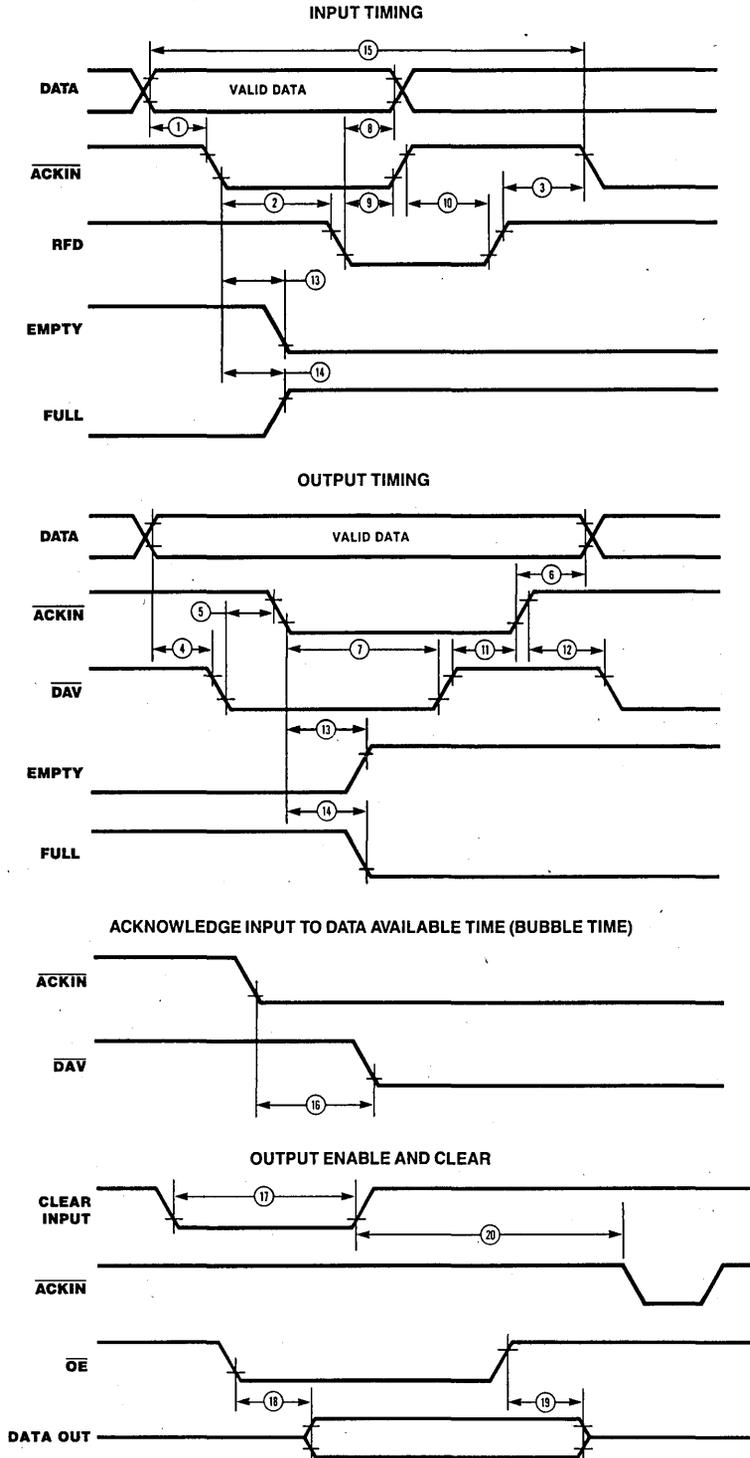

Figure 9. Timing Diagrams
**FIFO 2-Wire Handshake Timing.** Timing for 2-wire interlocked handshake operation is shown in Figure 9. The symbol, description and values for the numbered parameters (Figure 9) are given in AC Characteristics.